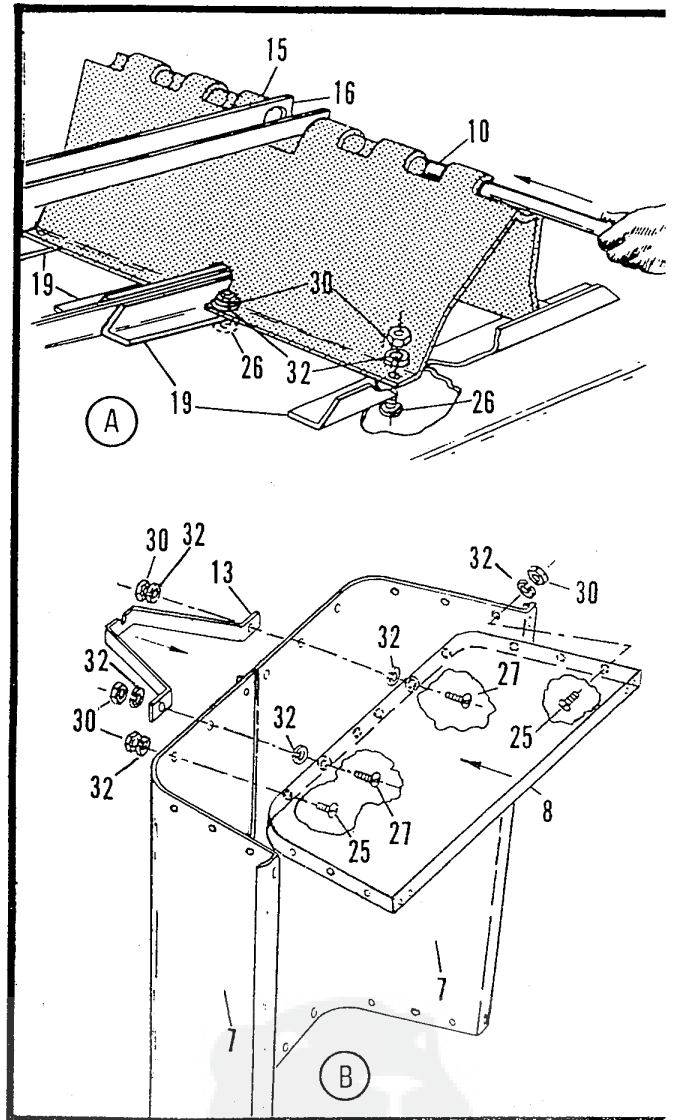

Fig. 2
Refer to Fig. 2
- Secure with two 5/16" Lock Washers (32) and two 5/16" Hex Nuts (30). Finger tighten.
- Align remaining holes in End Panel and Bed Halves and insert 5/16" x 1/2" Round Head Screws (25 - from inside of Wagon Bed), securing with 5/16" Lock Washers (32) and 5/16" Hex Nuts (30). Finger tighten.
- Lay the Cart upside down on a flat smooth surface (to insure a level bed) and securely tighten all fasteners used in Fig. 1 and Fig. 2.